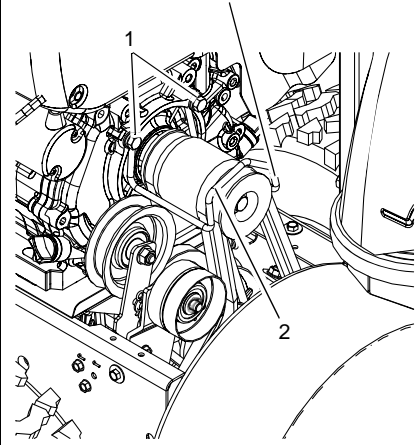

Figure 29
(Figure 29)
6. Remove belt finger (Figure 29).